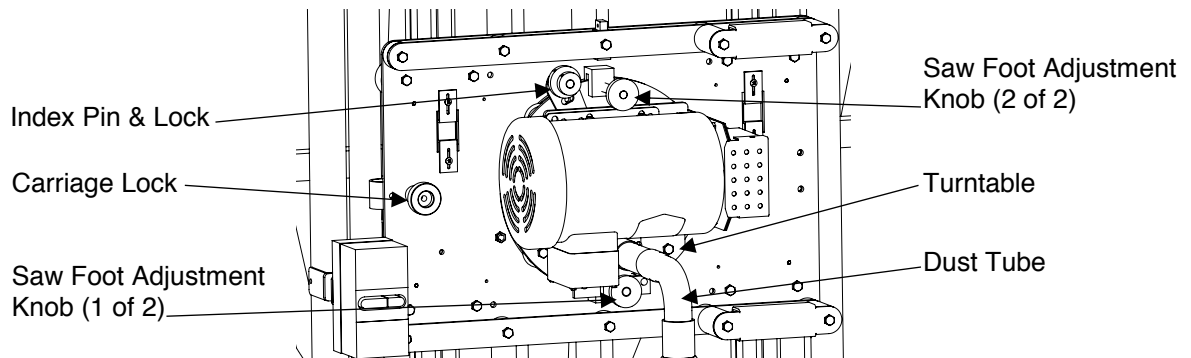

Figure 19: Changing a Saw Blade (7000 shown)
5. Move Saw Carriage to the opening created by sliding the frame filler insert or to a convenient working height if your model does not have the inserts. Lock the Carriage Lock (Fig. 19).